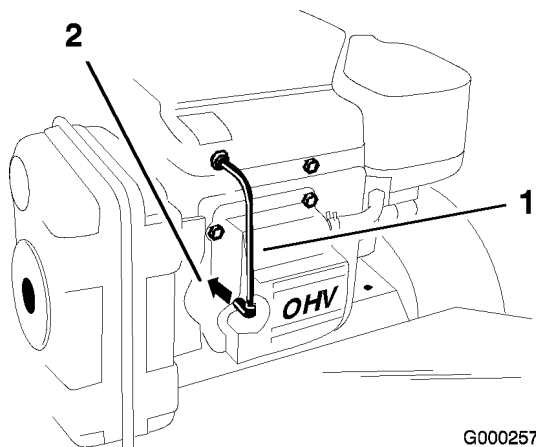

Figure 39
2. Pull the wire(s) off the spark plug(s) (Figure 39). Now clean around the spark plug(s) to prevent dirt from falling into the engine and potentially causing damage.
3. Push the wire(s) onto the spark plug(s) (Figure 39).